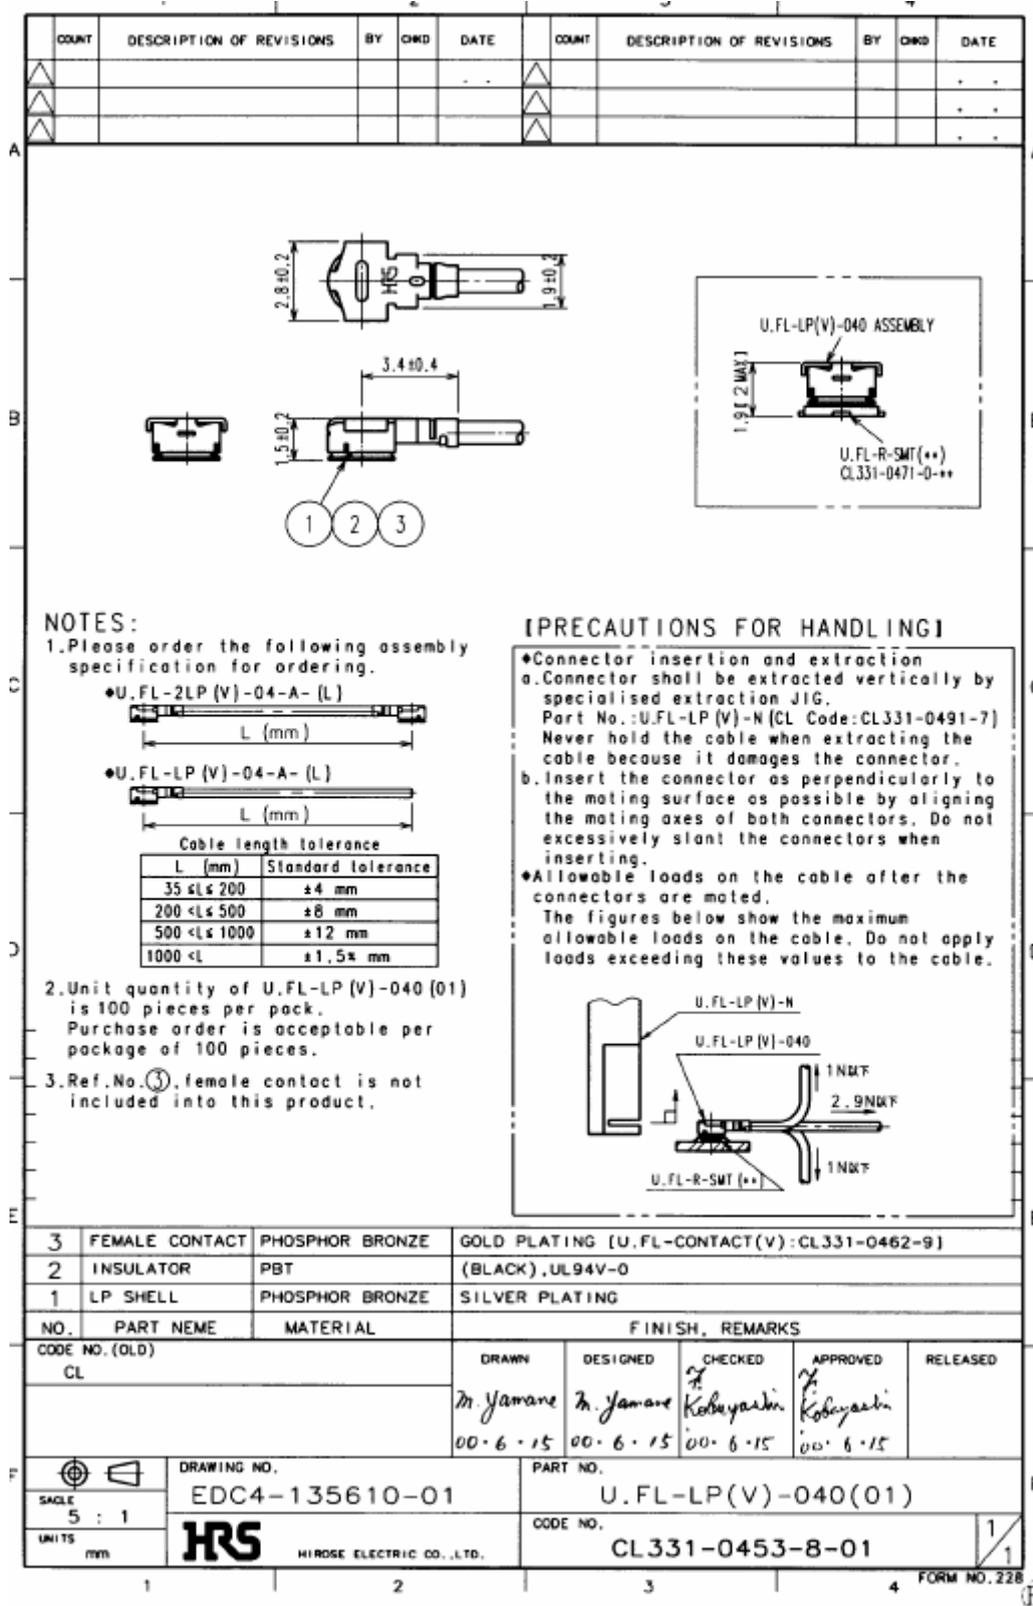

Figure 32: Specifications of U.FL-LP-(V)-040(01) plug
In addition to the connectors illustrated above, the U.FL-LP-(V)-040(01) version is offered as an extremely space saving solution. This plug is intended for use with extra fine cable (up to  $\varnothing 0.81\text{mm}$ ) and minimizes the mating height to 2mm. See Figure 32 which shows the Hirose datasheet.